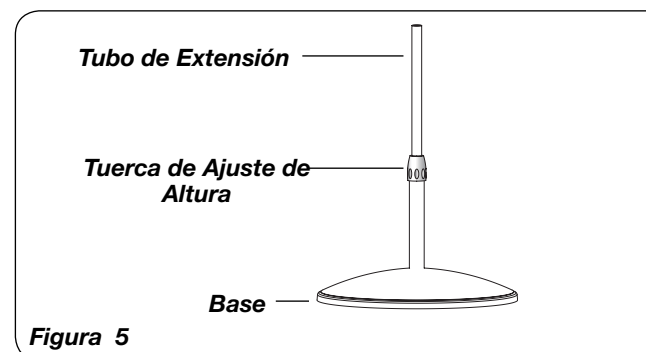

Figure 5
- With a twisting motion, insert the end of the large diameter pipe into hole in **Base**. (**Figure 5**) Turning pipe while pushing will assure pipe is fully seated in **Base**.